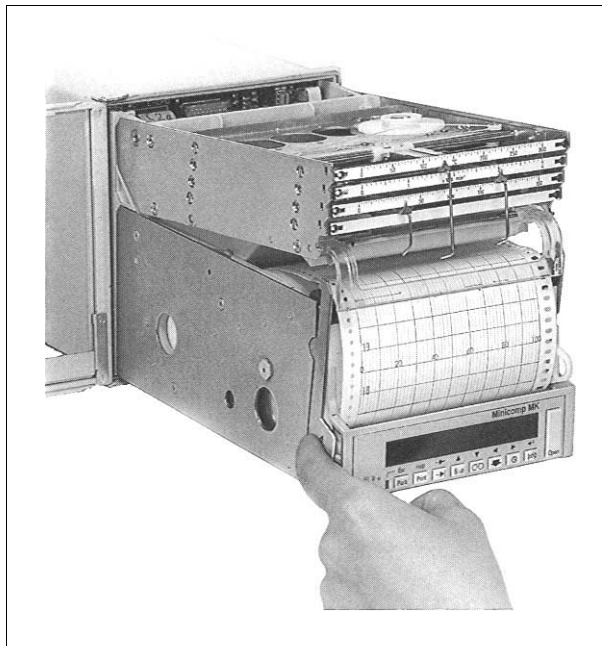

Fig. 8
2. Unlock measuring system carrier and fold up to the stop (see Figs. 8 and 9).